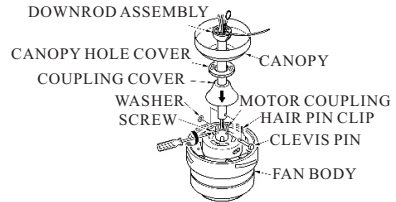

FIG.2
2. Insert the down rod through the center opening in the canopy, coupling cover and route the motor leads through the hanger ball/downrod assembly. Align the clevis pin holes in the downrod with the holes in the motor coupling. The clevis pin must pass through the holes in the motor coupling and the downrod. Place the washer onto the clevis pin and install the hairpin clip making sure to push straight leg of the hairpin clip through the hole near hanger ball to make sure the clevis pin is properly installed(see Fig.2)
4. CONNECTING THE RECEIVER (FIG.2)